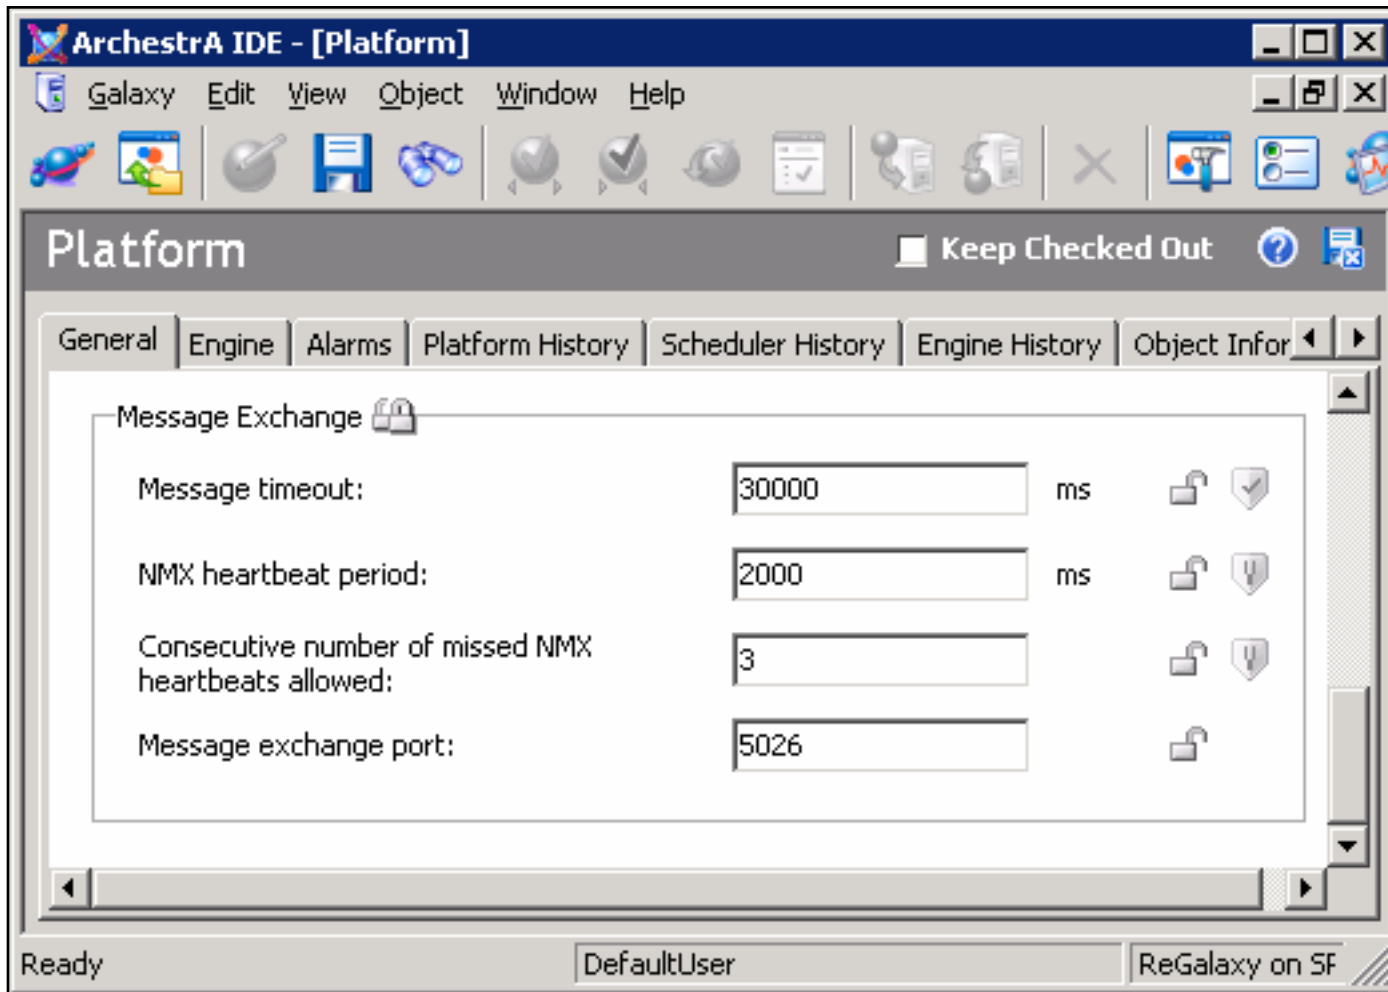

Figure 5: Missed NMX Heartbeats
1. **Message Timeout:** The number of milliseconds for response message MxTimeouts for cross-engine communications. The default value is 30,000 ms as shown in **Figure 5** (below).